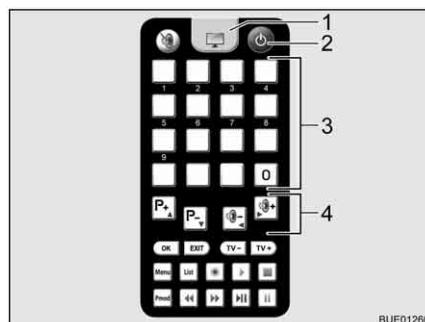

Fig. 33 Remote control for television
- Press the key "⏻" (Fig. 33,2) on the remote control for the television. The unit switches to search mode. You will hear a continuous tone.
- To switch to television reception on the TV remote control, press the TV button (Fig. 33,1). The signal tone will stop. An image will appear on the screen.
- Use the memory buttons (Fig. 33,3) on the TV remote control or the function buttons (Fig. 33,4) to select the desired station.